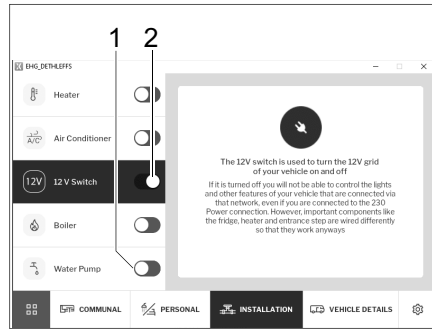

Fig. 277 12 V and water pump
- Use the switch (Fig. 277,2) to switch the vehicle's 12 V supply on and off. A note will appear indicating which consumers are affected by this.
- Use the switch to turn the water pump (Fig. 277,1) on or off. Also see Chapter 9.14.5.